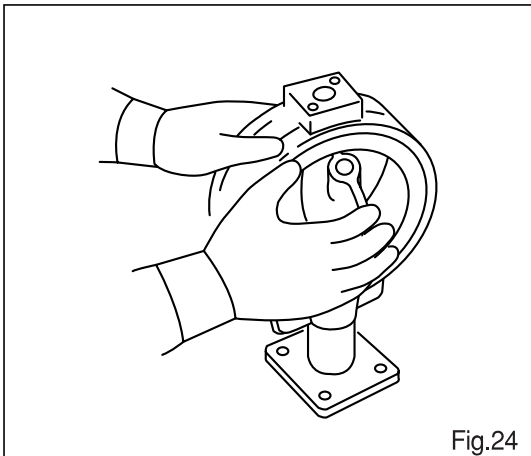

Fig.24
- 5. Insert the disc** : Apply silicone oil to the disc②, then, insert the disc② into the rubber-lined valve body. (Fig.24)
- 6. Insert the lower shaft** : Center the disc② and the upper shaft hole of the body. Insert the bushing⑥, and the lower shaft⑤ to the shaft of the body. In doing this, apply grease to the seat-ring and the shaft.